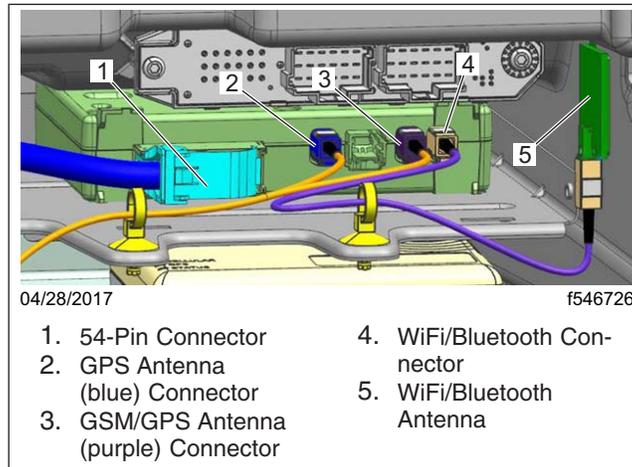

Fig. 1, Common Telematics Platform ECU
- 3.3 Disconnect the connectors from the CTP ECU. See Fig. 1.
- 17.1 Inspect that the area is clean where WiFi antenna will be installed. Clean as needed using Isopropyl alcohol. See Fig. 1.
- 17.3 Connect the antenna cable to the CTP as shown in Fig. 1. Secure antenna cable to the electronics bay bracket using a fir tree tie strap (p/n 23-13481-000).
3. Disconnect the GPS and GSM antenna connectors from the CTP. See Fig. 1.